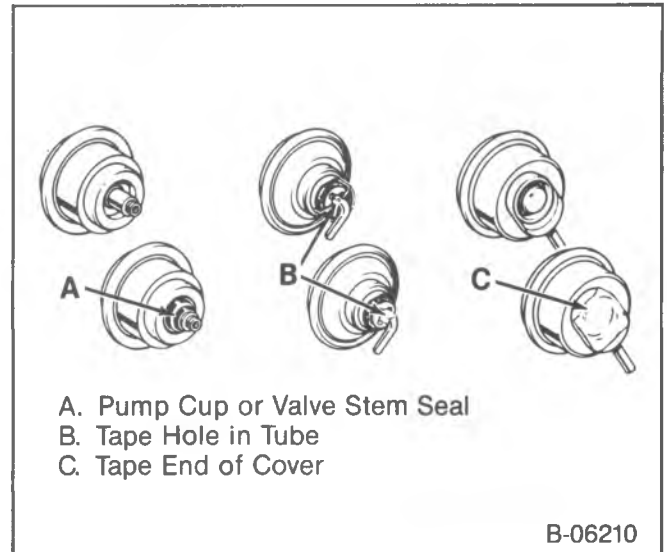

Figure 33—Plugging Vacuum Break Bleed Holes
1. If the vacuum break has an air bleed hole, plug it during this checking procedure (figure 33).